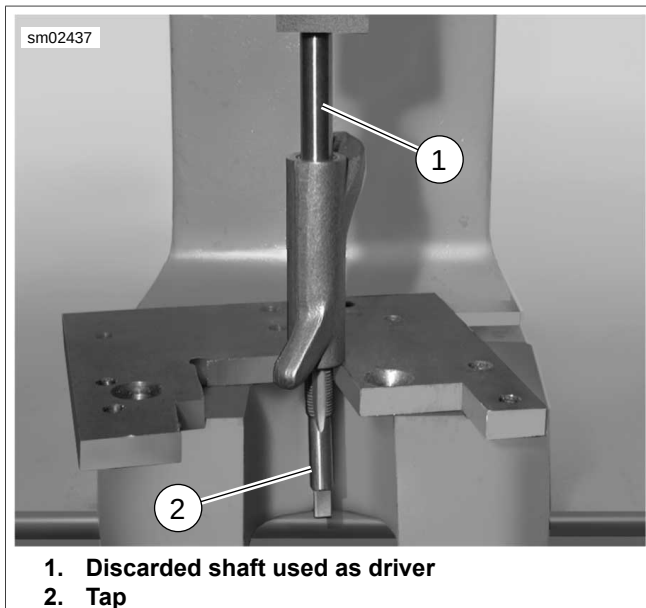
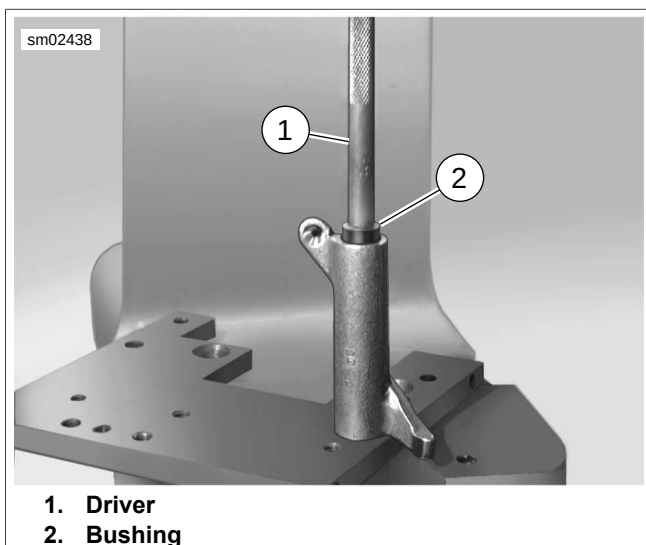

Figure 3-36. Removing Bushing
Figure 3-37. Installing Bushing
1. See Figure 3-36. Remove bushing from rocker arm:
- a. Turn a 9/16-18 tap (2) into bushing until tight.
- c. Slide a discarded rocker arm shaft (1) through open end of rocker arm until contact is made with tap.
2. See Figure 3-37. Using a suitable driver, press **new** bushing into side of rocker arm until flush with casting. Be sure to orient bushing so that split line faces top of rocker arm.